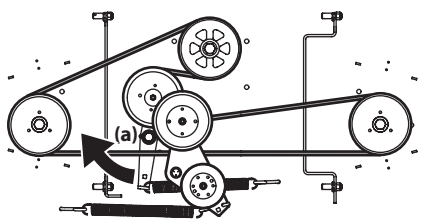

Figure 4-23
5. Using a 1/2" drive insert the end into the 1/2" square opening in the deck idler assembly (a) and rotate the deck idler assembly (a) clockwise. See Figure 4-23. While holding the deck idler assembly (a), loosen the deck belt from the pulley and slide the belt away from the pulley.
6. Route the new belt as shown in Figure 4-23. Then reinstall the deck and PTO belt.